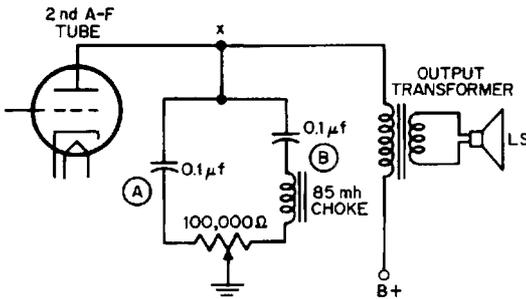

Fig. 25-3. Circuit showing a treble-bass tone control.
**Treble-Bass Tone Control.** Another type of tone control is shown in Figure 25-3. This tone control consists of two arms. In one arm, A, is a 0.1  $\mu\text{f}$  capacitor. In the other, B, a 0.1- $\mu\text{f}$  capacitor is connected in series with a choke coil of about 85 millihenrys. One end of each arm is connected to the plate of the final audio-frequency tube. Across the other ends, a 100,000-ohm potentiometer is connected with the sliding arm going to the ground.